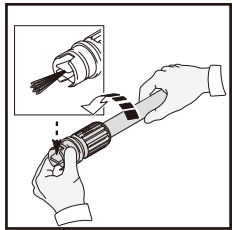

Fig. 18
- Use the adjustable spray lance when cleaning windows. Be sure to adjust the nozzle to a wide fan spray pattern and place the nozzle approximately four to five feet away from the window with the nozzle at forty five degree angle. Squeeze the trigger and vary the fan spray pattern and angle until optimum cleaning efficiency is achieved (Fig. 18).